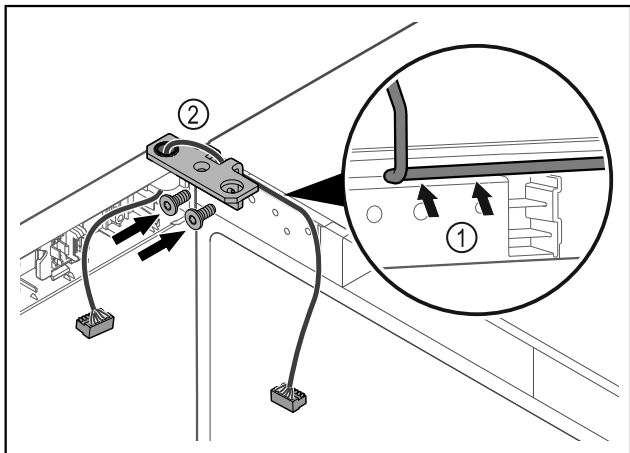

Fig. 42
- ▶ Feed the cable through the recess in the hinge and lay it carefully Fig. 42 (1).
- ▶ Screw on the hinge Fig. 42 (2).